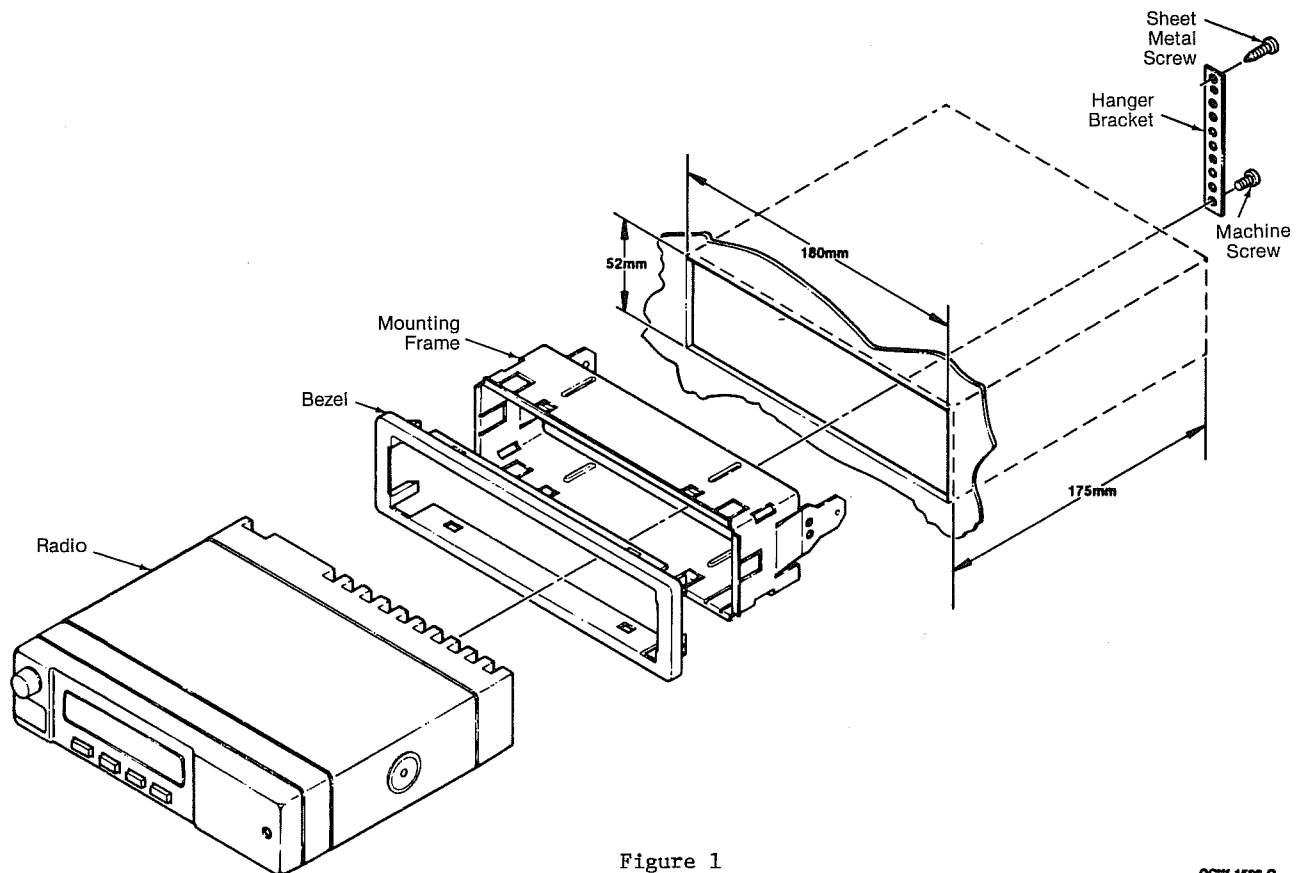
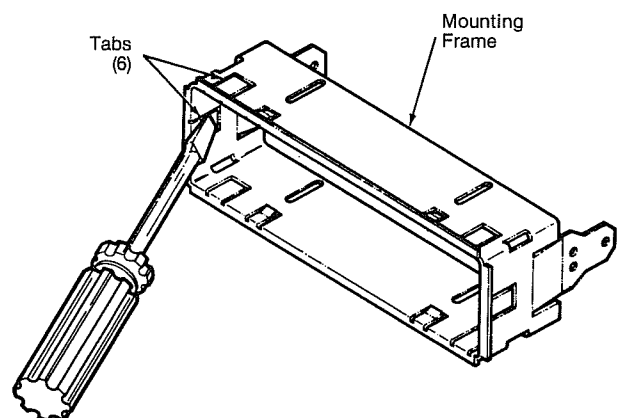
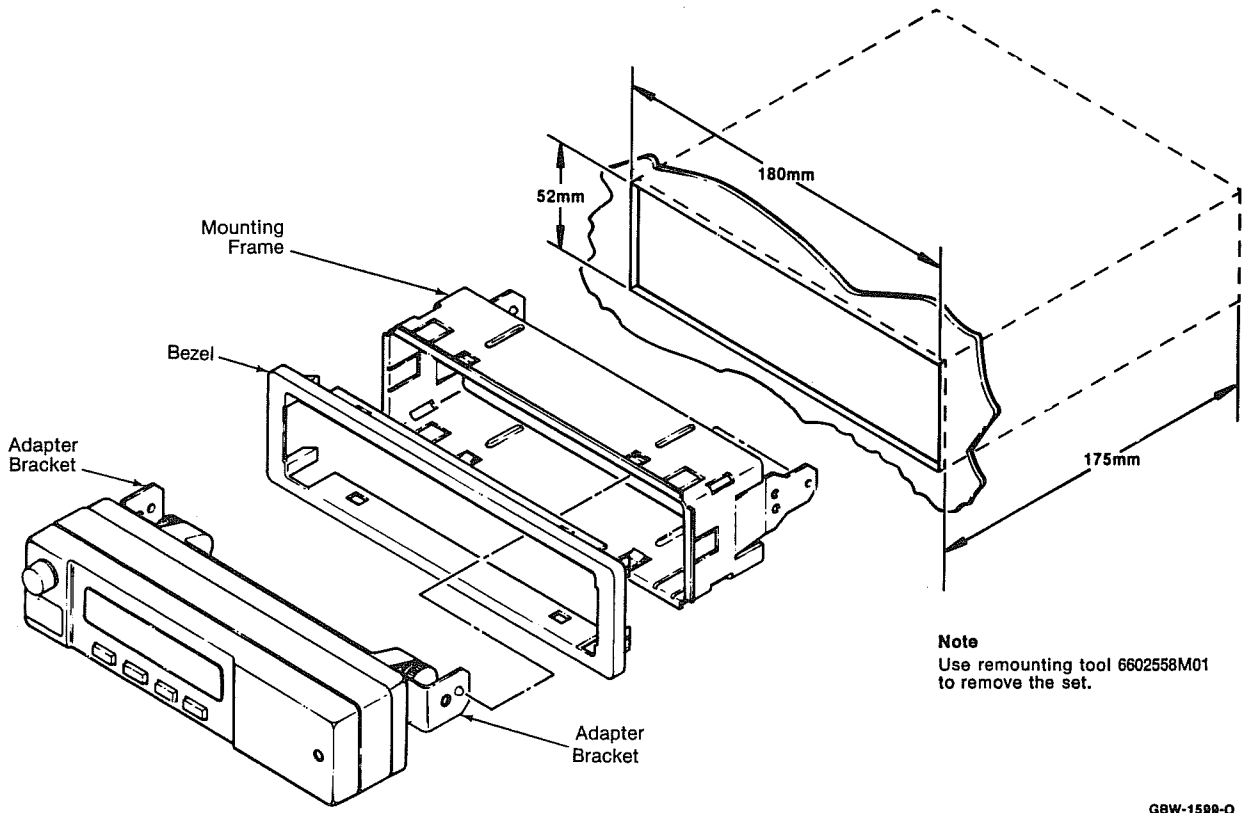

Figure 1
Figure 2
Figure 3
(1) Open the radio cutout, and enlarge it, if necessary, to the dimensions shown in Figure 1.
(2) Insert the mounting frame into the cutout and bend the six tabs (Figure 2) to hold it in place. Press the bezel onto the mounting frame.
(3) Slide the radio into the mounting frame until it snaps firmly in place.
(4) Attach the hanger bracket (Figure 1) to the structure of the vehicle with a sheet metal screw, and to the back of the radio's heat sink with a machine screw.
(1) Attach the adapter brackets to the control head with internal-hex machine screws (Figure 3).
(2) Open the radio cutout in the dashboard or enlarge the cutout to the dimensions shown in Figure 3.
(3) Insert the mounting frame into the cutout (Figure 3) and bend the six tabs to hold it there (Figure 2). Press the bezel onto the mounting frame.
(4) Slide the control head into the mounting frame until it snaps firmly in place.